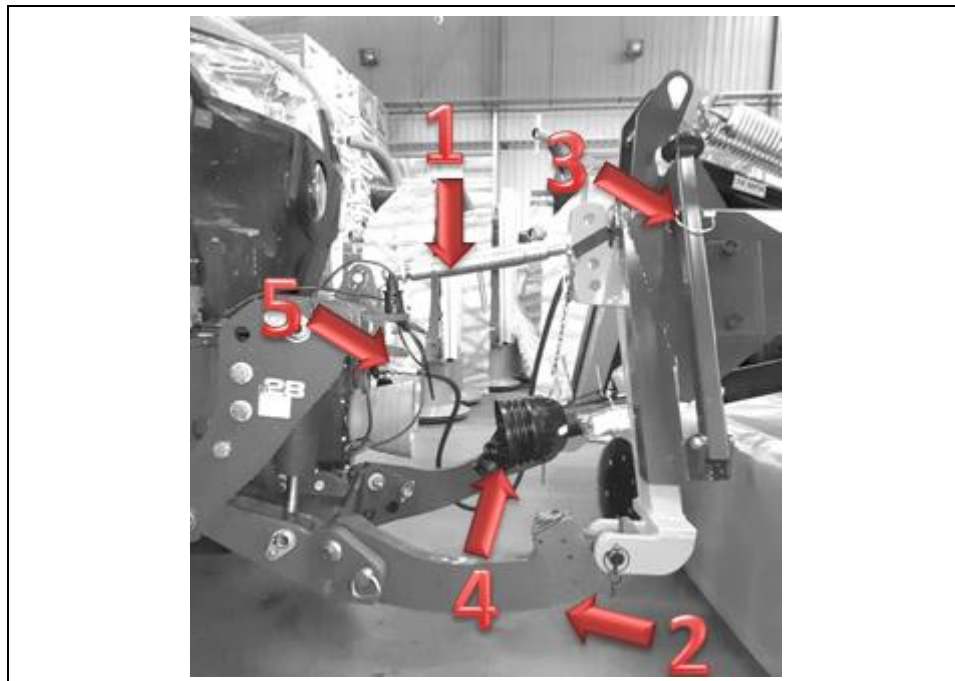

Fig. 4 Coupling the mower to the tractor
The machine is mounted on a three-point hitch suspension system of the tractor. For easier coupling, set the bottom tie-rods, (2) in Fig. 4, to the height of ca. 350mm.
After the machine has been hitched, lift and secure the parking stand (3), connect the coupling (1) in Fig. 4 and adjust its length so it forms an angle of  $4\pm 5^\circ$  in relation to the ground. Decreasing the angle raises the mowing height. Care must be taken to ensure that the original safety devices are in place. Each time the mower is mounted on the vehicle, check the connecting elements, i.e. pins and plugs, for wear. In case of wearing out replace them with new ones.